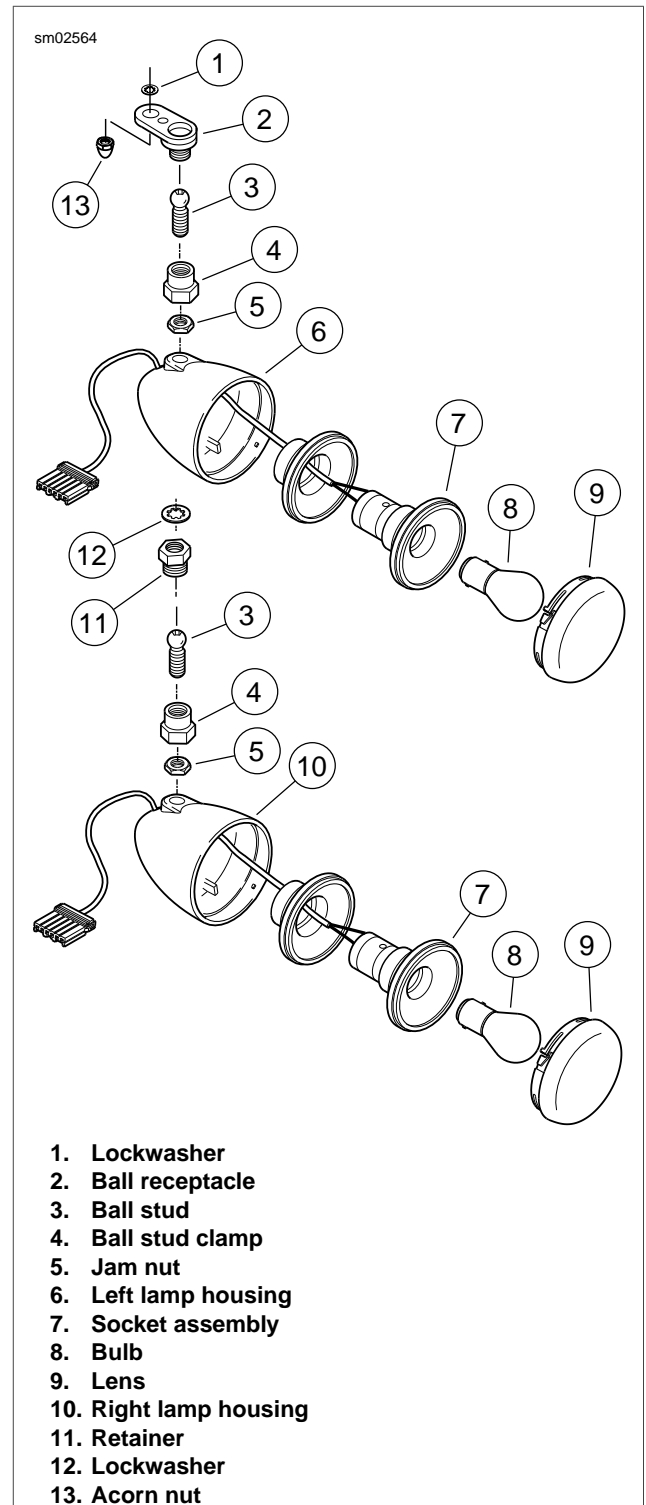

Figure 8-27. Front Turn Signals
6. See Figure 8-27. Remove lamp housing:
- a. For left side housing, loosen ball stud clamp (4) until turn signal assembly is free from ball receptacle (2). Loosen jam nut (5) and remove ball stud (3) and ball stud clamp from lamp housing.
- b. For right side housing, loosen ball stud clamp (4) until turn signal assembly is free from retainer (11). Loosen jam nut (5) and remove ball stud (3) and ball stud clamp from lamp housing.